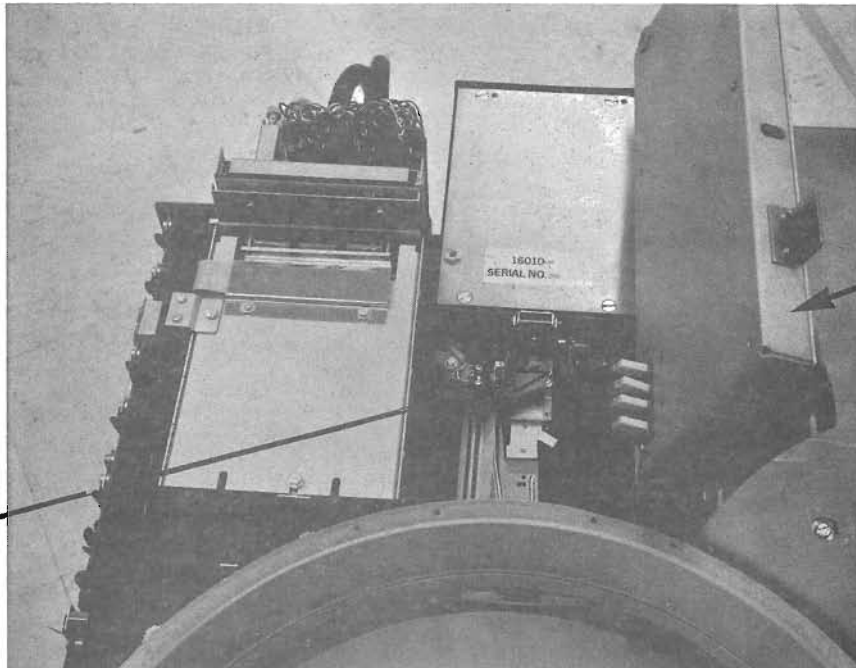

FIGURE 17
- 17) Lift up the Read/Write electronics in order to expose the orange colored SHIPPING CLAMP shown in Figure 17.